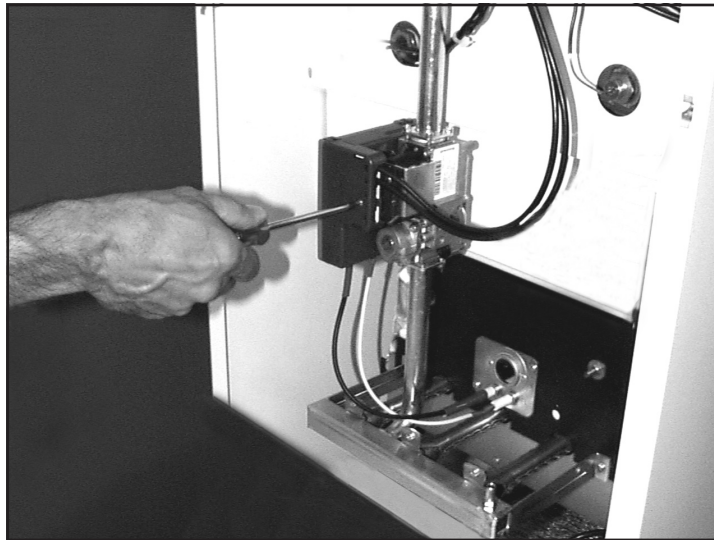

fig. 14
- Remove the electronic flame control unit from the gas valve (fig. 14)